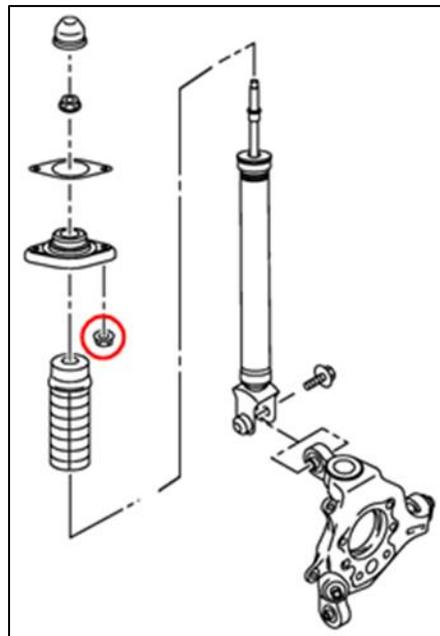

Figure 8
4. Remove the (2) two nuts at the top of the OE Rear Shock Absorber that secure it to the studs on the chassis, circled below. *Figure 8*.